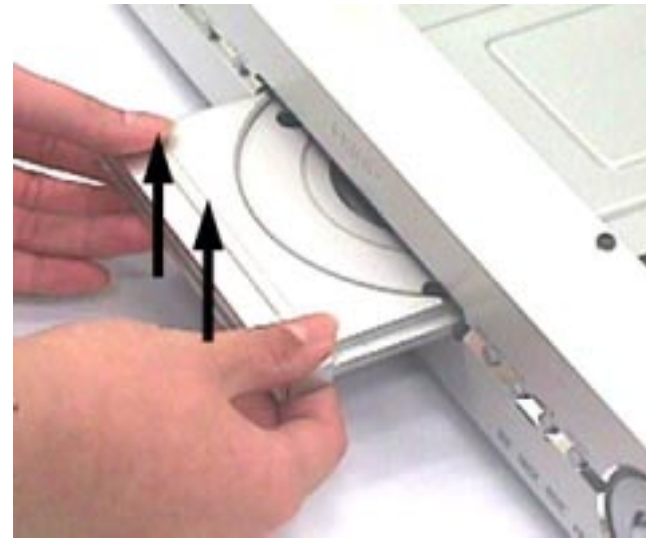

Figure 2
- 2) Slide out the tray and remove the Cover Tray assembly (pos 113 + pos 115 + pos 117) as shown in Figure 2.
- 3) Loosen 7 screws to remove the Cover Top (pos 197).